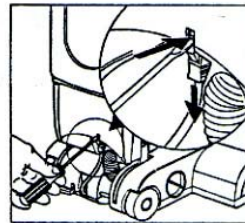

Figure 13
- Unplug the connecting cord from the vacuum motor housing. Release the plug by pressing in a pointed object (e.g. screwdriver). <Figure 13>